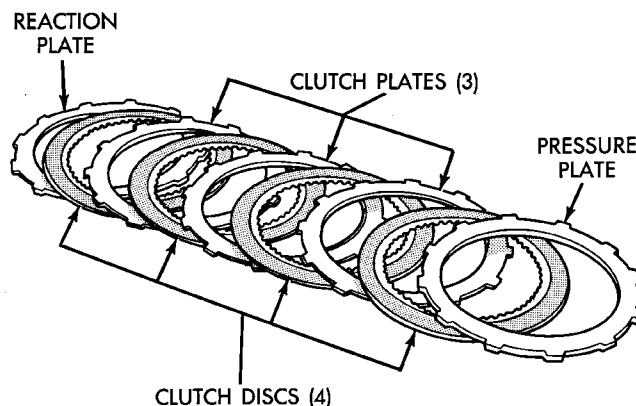

Fig. 247 46RE Overdrive Clutch Components
(3) Assemble overdrive clutch pack (Fig. 247).